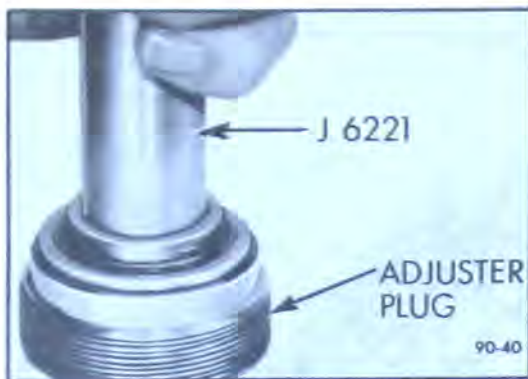

Figure 90-35 Removing Needle Bearing
5. Inspect needle bearing in adjuster plug and if rollers are broken or pitted, remove needle bearing by pressing from thrust bearing end using tool J-6221 and discard bearing. See Figure 90-35.